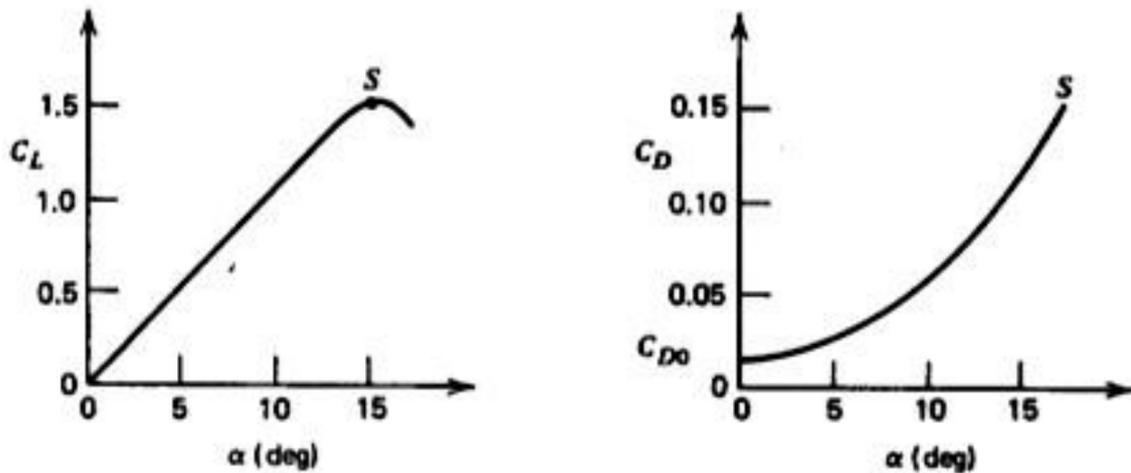
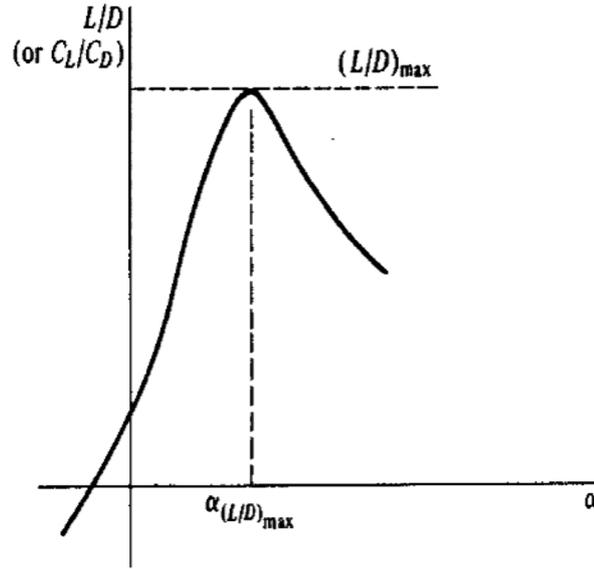

Figure 4: Variation of C_L & C_D with α
Figure 5: Variation of L/D or C_L/C_D with α
- Typical variations of C_L & C_D with respect to angle of attack is shown in Figure 4. Similarly, a typical variation of C_L/C_D with respect to angle of attack is presented in Figure 5.
- As it can be seen from Figure 5, for a particular aircraft, $[C_L/C_D]_{max}$ could be achieved max only at a particular (fixed) angle of attack. We now try to find out what is that angle of attack for any given aircraft.